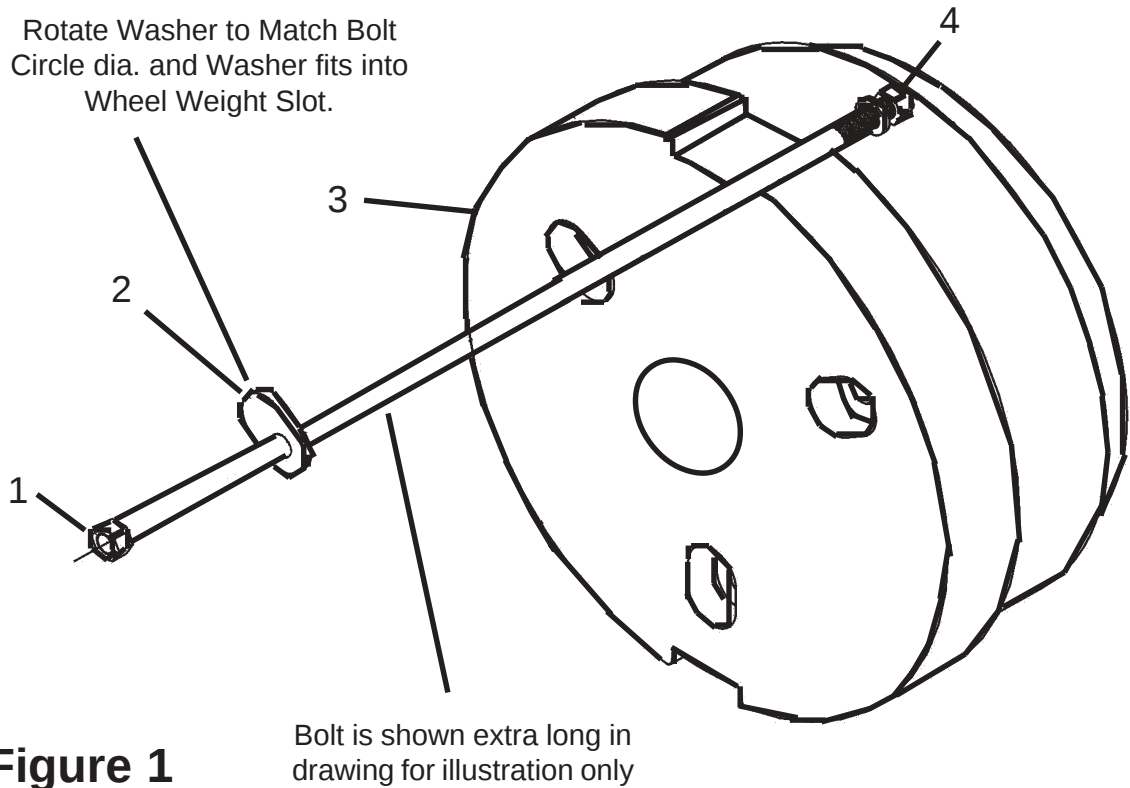

Figure 1
5. Looking at the outside make sure the three special Washers (Figure 1 Item 2) are aligned with the Slots in the Wheel Weight. Tighten the three Bolts now. You will need an assistant to hold the other Side while you are tightening the Bolts. While tightening Bolts, check to make sure the three special washers are seated correctly. If these Bolts are tightened and washer is not seated into the recess on Wheel Weight, damage will occur.
1. Remove Front Cover (See Figure 1), Remove the 4 plastic plugs shown in figure 1 and discard them, they will not be needed. Remove the 2 Allen Head Cover Retaining Bolts. After removal, this front cover will not be used. The front Casting will have a Driveline Hole in it. (See Figure 2). This will be the same on 2 WD or 4 WD.